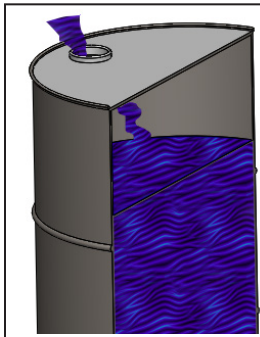

Figure 1
1. Open the barrel plug and displace vapors with water to make barrel safe for power tools. (Figure 1)